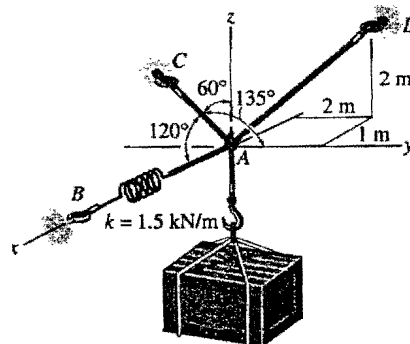

Figure 2-a
- b) Determine the intensities w_1 and w_2 of the distributed loading acting on the bottom of the slab (Fig 2-b) so that this loading has an equivalent resultant force that is equal but opposite to the resultant of the distributed loading acting on the top of the plate.